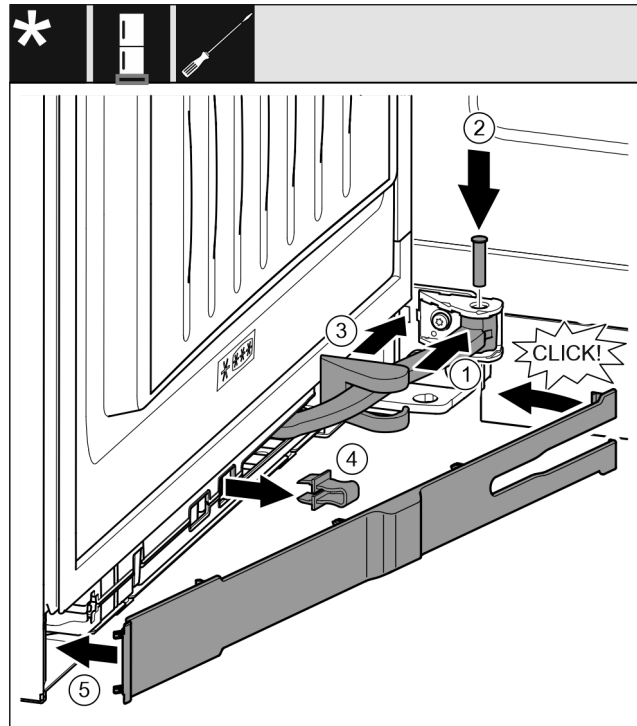

Fig. 45
- ▶ Turn the hinge in the mount. Fig. 45 (1)
- ▶ Insert the bolt with a T15 screwdriver in the mount and hinge. Make sure that the latching lug is sitting correctly in the groove. Fig. 45 (2)
- ▶ Push the bearing bracket cover along the hinge and fit it on the mount. Fig. 45 (3)
- ▶ Remove the locking device. Fig. 45 (4)
- ▶ Position the panel on the handle side and swing it in. Fig. 45 (5)